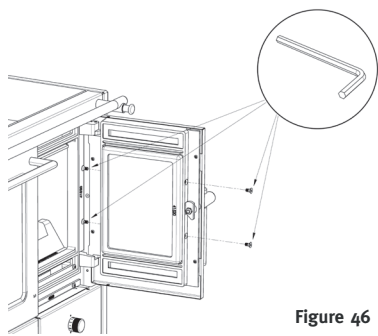

Figure 46
- Undo the 4 Allen screws (Figure 46).